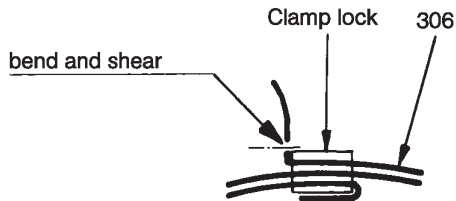

Figure 16: Bending and shearing of the joint clamp.
Note: In case of joint clamps of Hastelloy material, shearing with the clamping tool is not possible. After bending at the joint clamp lock, the joint clamp must be sheared by means of sheet metal shears and the cutting edges deburred (please refer to Figure 16 below).
- When using clamping tool Pok-It II, bend joint clamp (306) after clamping at the joint clamp lock by swinging the clamping tool so that the clamp cannot glide back through the lock. After bending at the joint clamp lock, the joint clamp must be sheared with sheet metal shears and the cutting edges deburred (please refer to Figure 16 below).
ATTENTION Check whether the joint clamp is bent so that it cannot glide back through the joint clamp lock (please refer to Figure 16 above). If this was not achieved, the joint clamp must be removed and replaced by a new one.